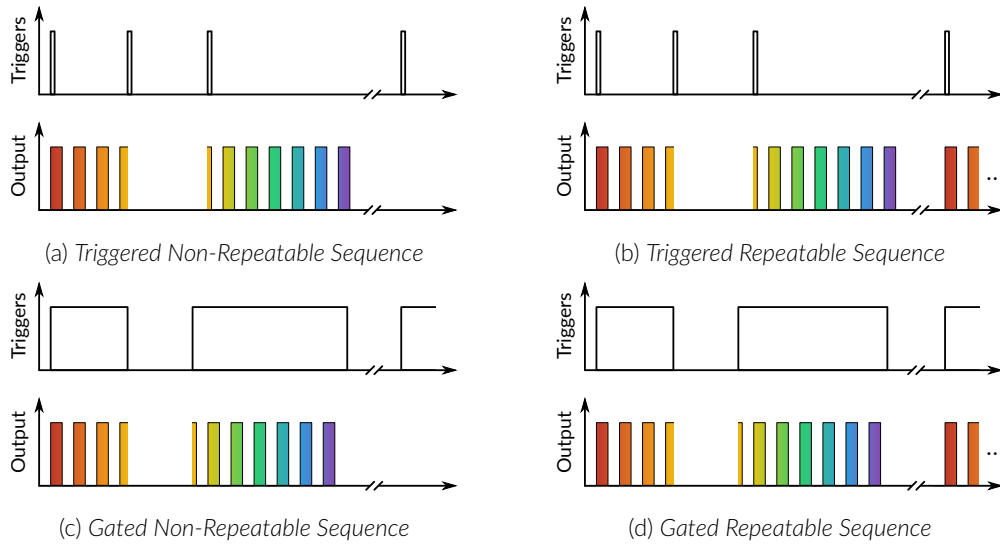

Figure 4.4: Pause Sequence Mode
- **Pause:** This mode activates the channel sequence when a rising edge greater than 3.3 V is detected on the BNC input (Fig. 4.4). Following input pulses (when *Triggered*, Fig. 4.4a) or falling edge (when *Gated*, Fig. 4.4c) will pause the sequence and the sequence will continue when the next rising edge is received. When the **Repeatable sequence** checkbox is checked, the sequence will restart with the arrival of the first input pulse after the sequence has finished (Figs. 4.4b and 4.4d).